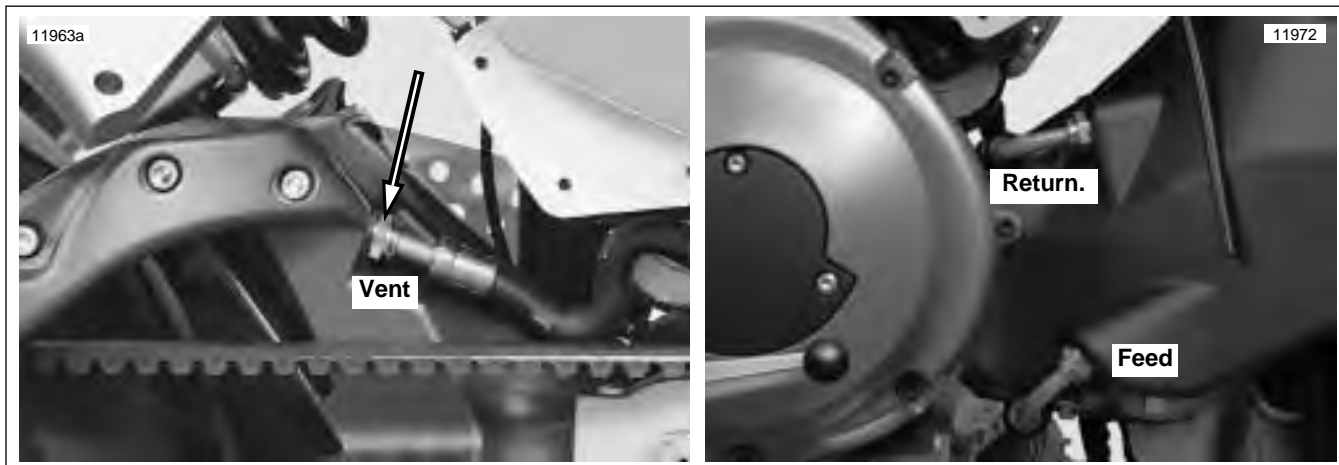

Figure 2-87. Jiffy Tite, Quick Disconnect Oil Lines and Fittings
1. See Figure 2-87. Remove oil line fittings from swingarm.
3. See Figure 2-87. Install oil line fittings with **new** o-rings on swingarm. Tighten to 108-156 **in-lbs** (12-17.6 Nm). See 3.10 OIL LINE FITTINGS.